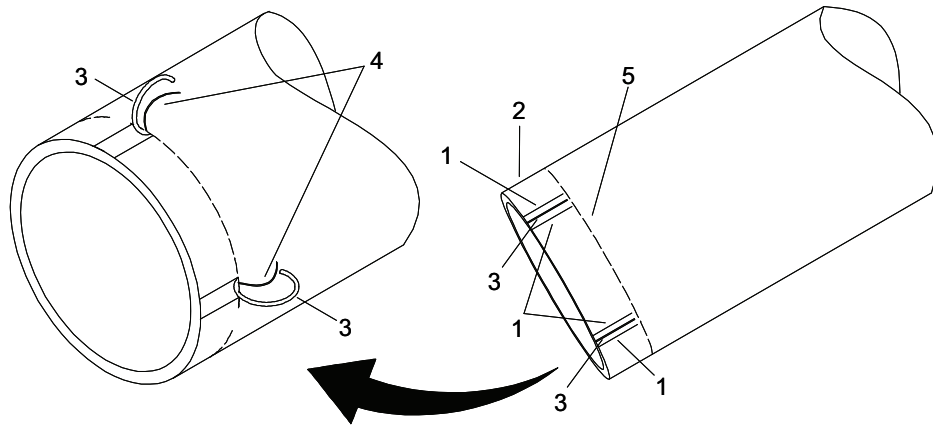

Figure 18. Hose Assembly Repair.
11. Using a knife, cut the reinforcement threads (Figure 18, Item 1) of the hose assembly fabric (Figure 18, Item 2) by cutting along each side of the ground wire (Figure 18, Item 3) as close as possible without cutting the ground wire (Figure 18, Item 3) or the red filament (Figure 18, Item 4) surrounding the ground wire (Figure 18, Item 3). Ensure not to cut all the way through the hose assembly fabric (Figure 18, Item 2).
12. Using the needle nose pliers, expose the ground wire (Figure 18, Item 3) back to the radial line (Figure 18, Item 5) by grabbing the ground wire (Figure 18, Item 3) and rolling the pliers so that the ground wire (Figure 18, Item 3) is rolled back over the pliers jaws.
13. Using the needle nose pliers, hold the ground wire (Figure 18, Item 3) so that it doesn't get damaged and cut the hose assembly fabric (Figure 18, Item 2) at the radial line (Figure 18, Item 5), removing the rest of the hose assembly fabric (Figure 18, Item 2) from around the ground wire (Figure 18, Item 3). Discard excess hose assembly fabric (Figure 18, Item 2).
14. Expose the other three ground wires (Figure 18, Item 3) using the same procedures.
15. After all four ground wires (Figure 18, Item 3) have been exposed, cut all excess hose assembly (Figure 18, Item 2) fabric out at the radial line (Figure 18, Item 5) previously marked. Discard excess hose assembly (Figure 18, Item 2) fabric.
16. Remove the red filament (Figure 18, Item 4) surrounding each ground wire (Figure 18, Item 3). Discard red filament (Figure 18, Item 4).